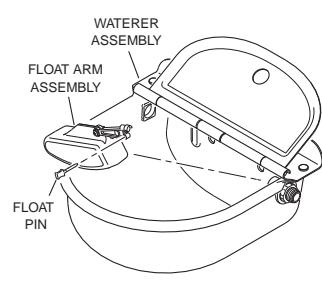
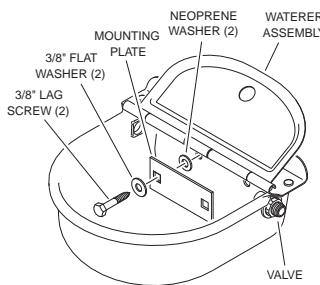

Figure 1
Figure 2
2. Remove the float pin and float/arm assembly from the waterer to gain access to the mounting holes (see Figure 1).
4. Drill a hole in each of the two (2) marked locations.
5. Install the waterer as shown (see Figure 2 or 3).